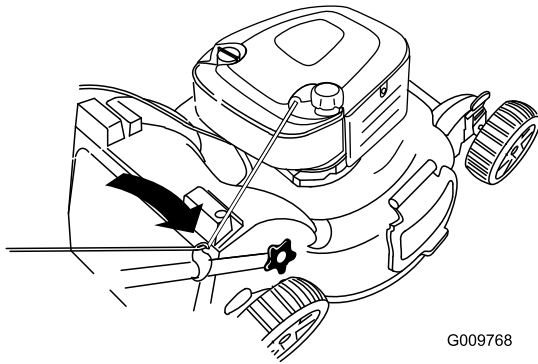

Figure 22
2. Route the starter rope around the lower rope guide (Figure 22).